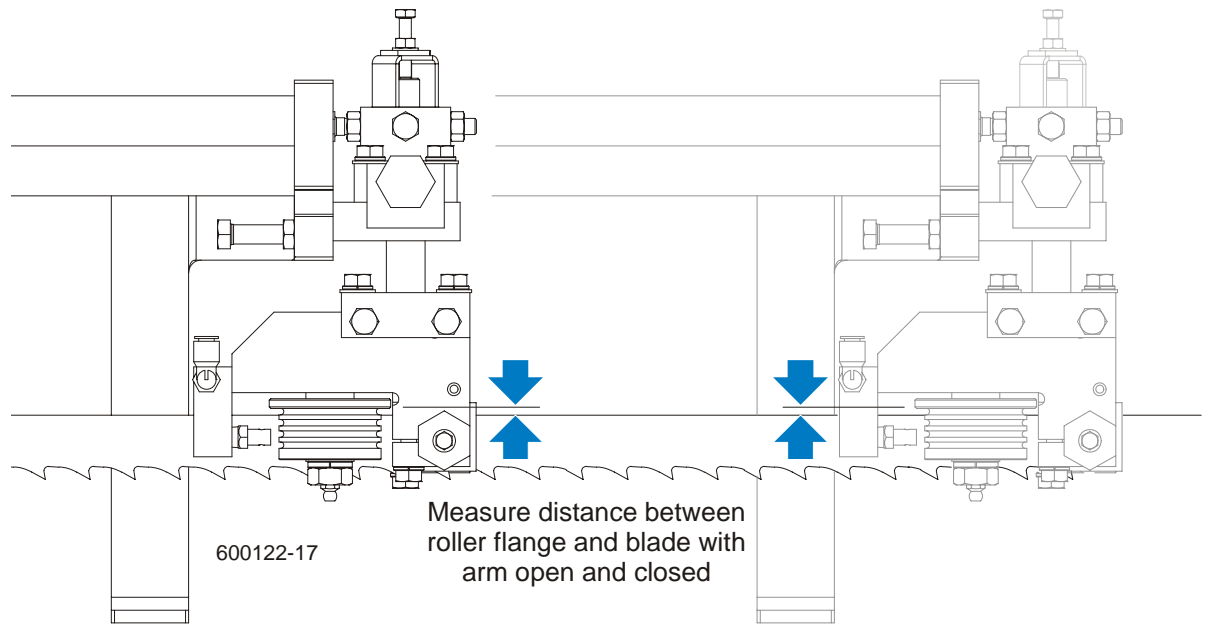

**FIG. 5-24**
**See Figure 5-24.** Loosen the jam nuts and turn the adjustment bolts in to tighten the blade guide arm rollers. Retighten the jam nuts. After tightening the blade guide arm rollers, check that the arm is aligned properly.